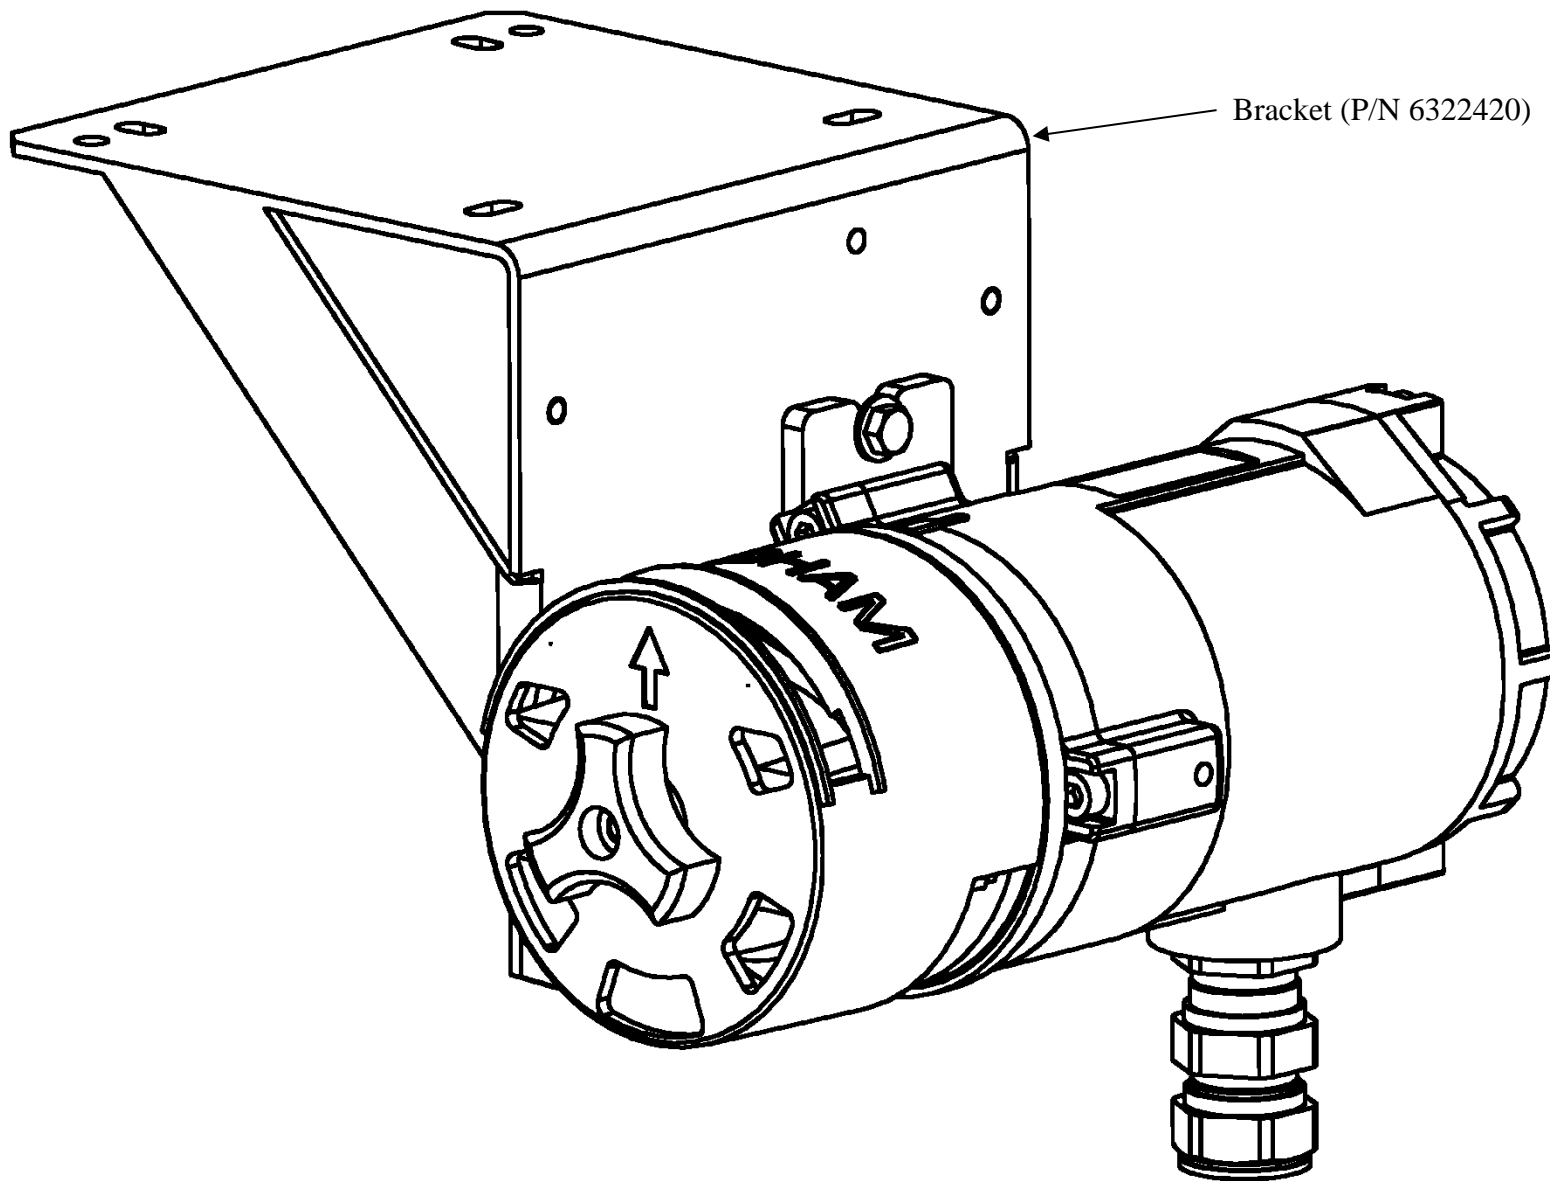

Figure 5
- The OLCT IR detector is intended to be mounted on a vertical support structure, such as a wall. When it has to be mounted on a horizontal surface, use the ceiling mount (part number 6322420, see Fig. 5).